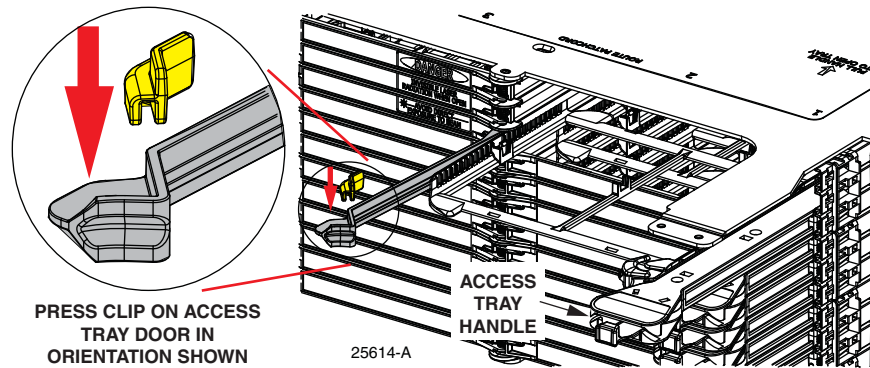

Figure 2. Installing a Clip on an Access Tray Door
3. Install clips between access tray doors referring to Figure 2.